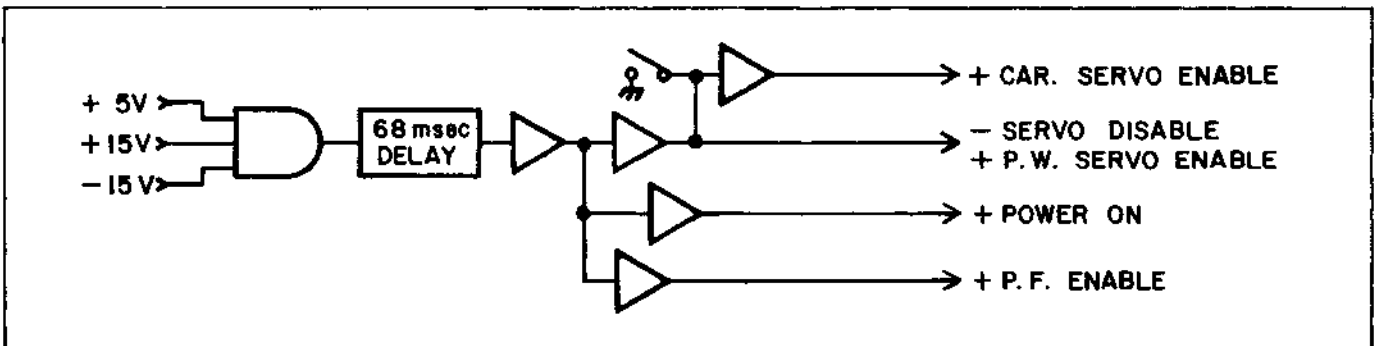

Figure 2-25. Block Diagram, Power Monitor Circuit
2.7.2 Power Monitor Circuit (Figure 2-25)